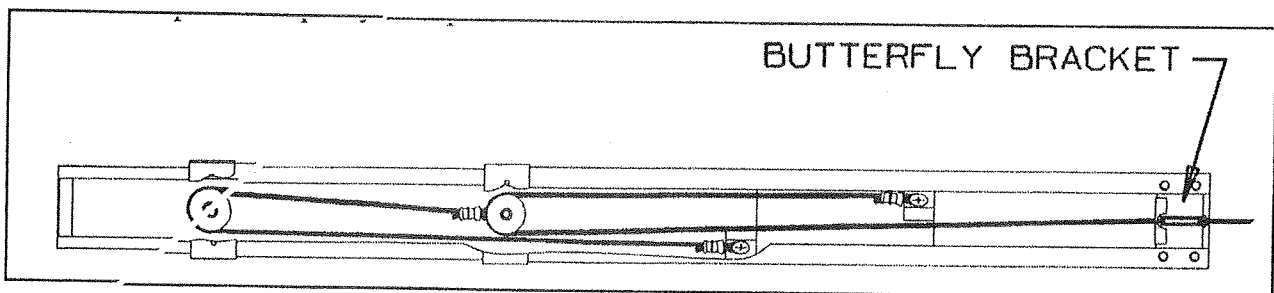

Figure 3
12. Remove the butterfly assembly from the bottom stationary section of the lift assembly by removing the four clinch nuts or rivets and replace with the new butterfly assembly. Replace the pulley and pin, if necessary. See figure 3.